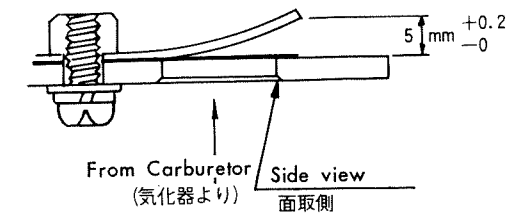

Figure 3. Clearance at the end of Valve Stopper
- Clearance of the end of Valve Stopper should be: $5\text{mm} + 0.2$ (See Figure 3)